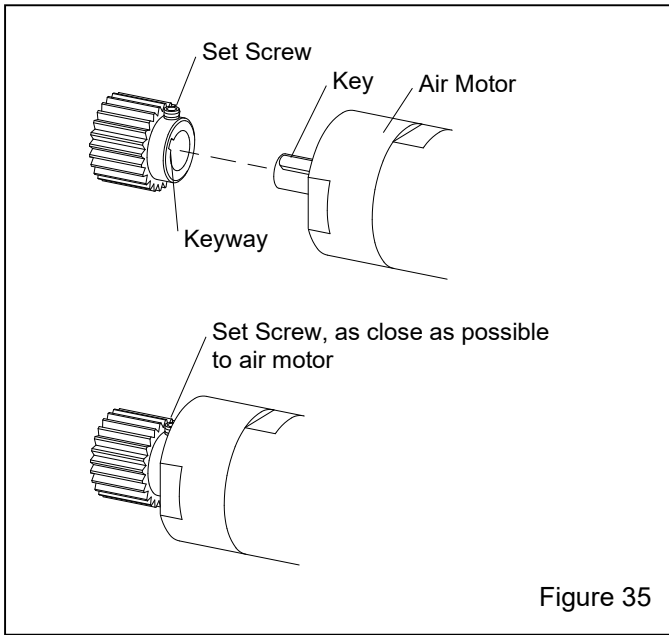

Figure 35
**9.6 Air Motor and Air Motor Gear Reassembly Figure 35**
9.6.1 If the gear was removed or replaced, install it onto the motor shaft with the set screw end facing toward the motor, as shown in Figure 35. Slide it fully onto the shaft leaving only enough room to insert a 2-mm hex key into the set screw. Tighten the screw to secure.